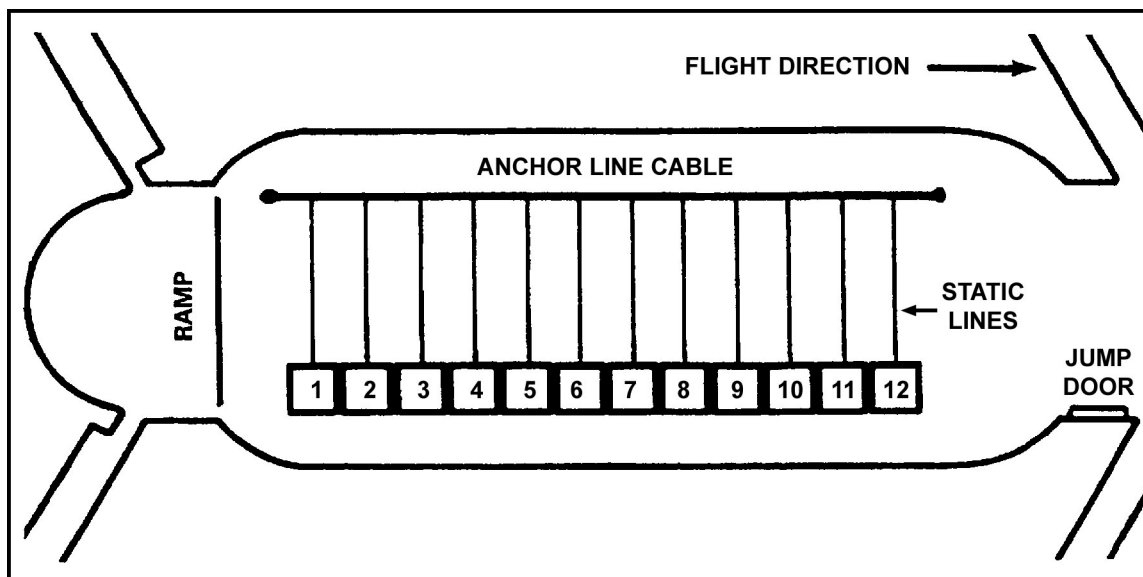

Figure 18-9. CH-46 ramp jump.
(2) *STAND UP*. Parachutists stand up and move to the port side (Figure 18-9).